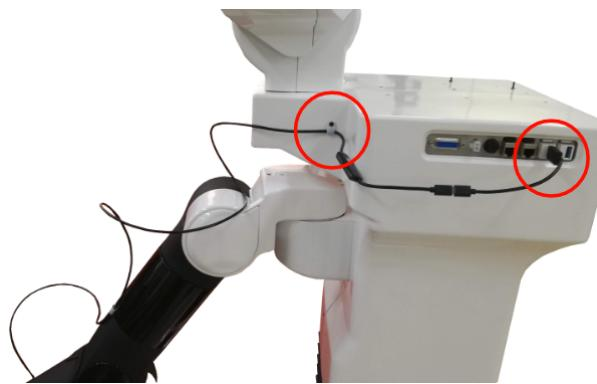

Figure 171: Mounting point on the torso and USB connection.
- Run the following motion to better install the fixation point lateral side of the upper part of the torso as shown in figure 171, using the fastener shown in figure 167c:
- Finally plug the USB connector to one of the ports on the expansion panel as shown in figure 171.